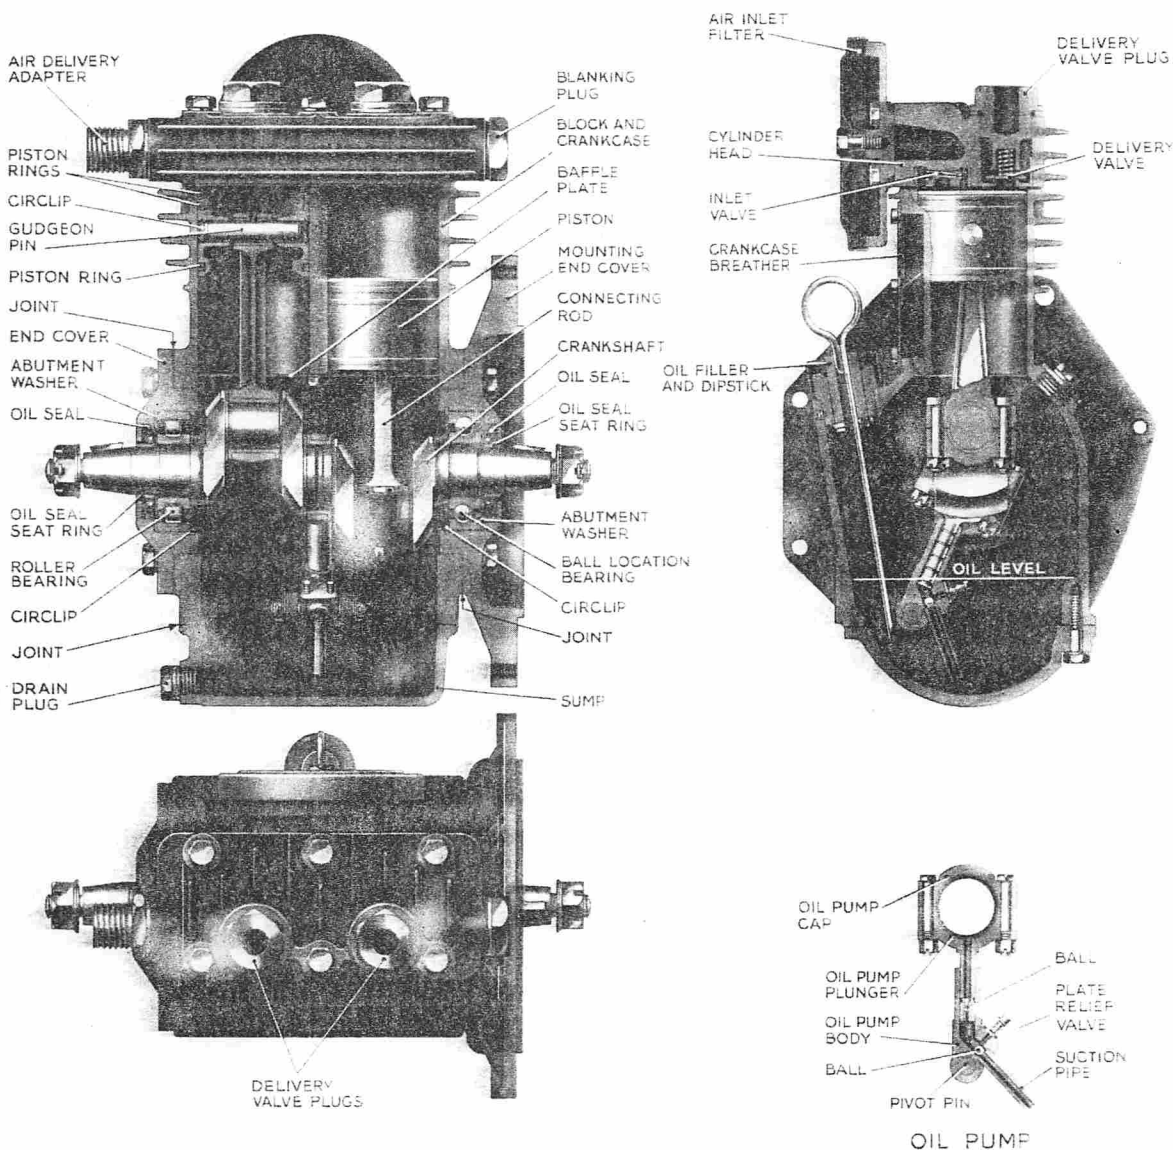

FIG. 96. SECTION THROUGH COMPRESSOR, TYPE PC GA58
The air inlet on type PC/GA58 is through a felt filter directly mounted on the head, as shown in Fig. 96.
Type PC/GA58 (Fig. 96)
5. Fit oil pump plunger to pump body (type PC/GA58) and bolt up the sump (Fig. 96).